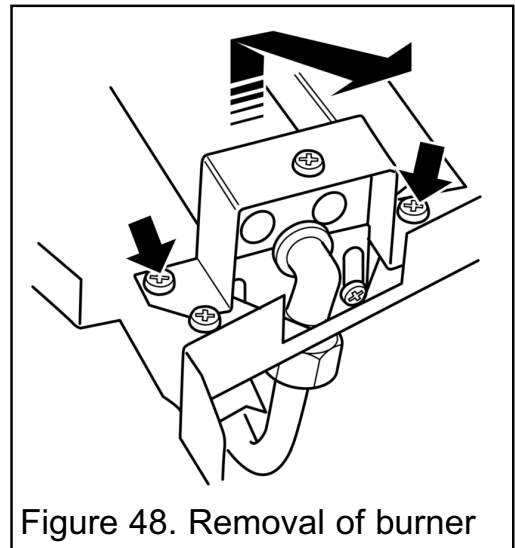

Figure 48. Removal of burner
(See figure 48).
3. Remove the two screws from the burner clamping plate (See figure 48)